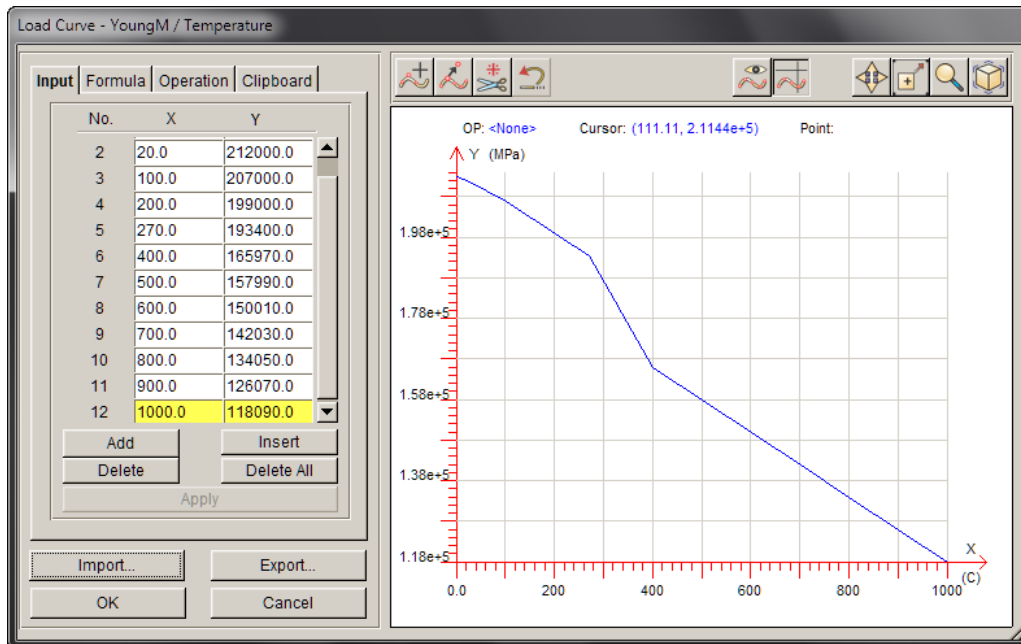

Figure 16
9. The imported curve illustrated in Figure 16.